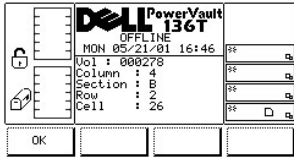

Figure 20. Status >Library > Media Selection > Media Details Dialog
- 1 If the button beneath the **Select** softkey is pressed, the details of the currently active field are displayed. See Figure 20.